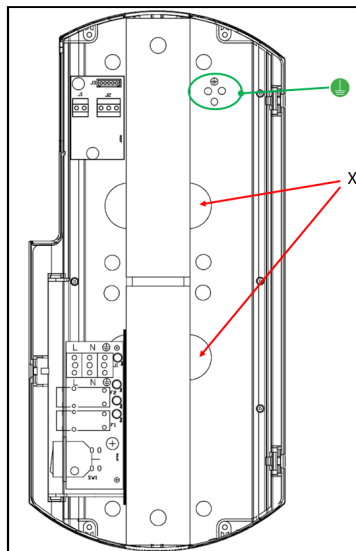

Fig. 5.10
According to the configuration (TOP or BOTTOM), all the cables coming from the bracket must exit from the top-right holes (X) as shown in Fig. 5.10 - 5.11.